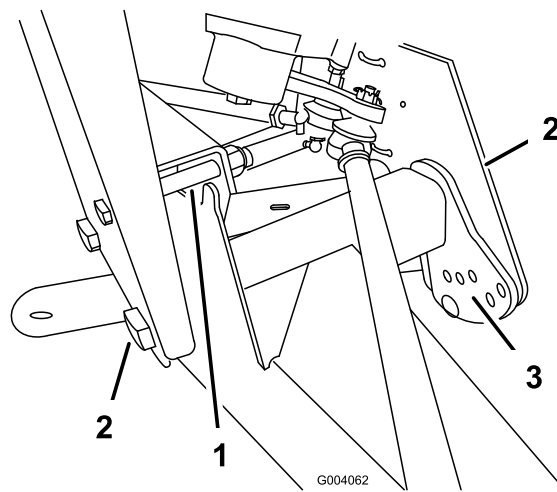

Figure 42
2. Remove the travel limiting bolt (Figure 42).
3. Loosen the centering bolts in the front A-arm (Figure 42).
4. Remove the ride height adjustment bolt (Figure 42).
5. Rotate the front A-arm to the desired position (refer to the note below) and replace the ride height adjustment bolt (Figure 42).
7. Replace the travel limiting bolt (Figure 42).